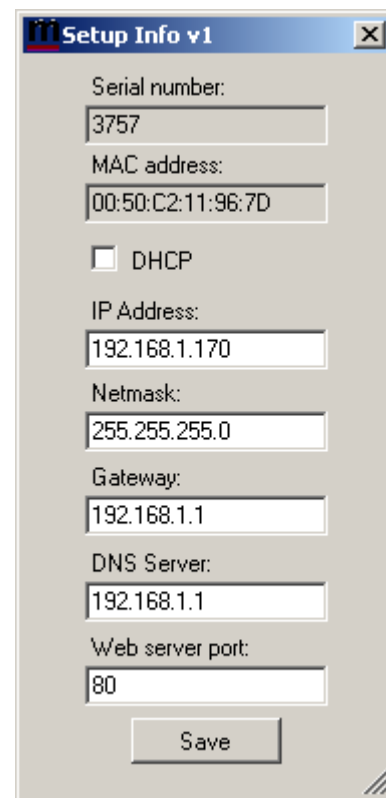

Figure 4
5. Click on the Get button to open the Setup Info window (Figure 4), check and correct the following entries as needed:
Web Server Port: This is the port your web browser uses to communicate with the RR-1256 unit to configure further settings without your browser. To communicate with the RR-1256 unit, enter the I.P. address assigned to it (e.g. for the unit shown in Figure 4, enter 192.168.1.170).